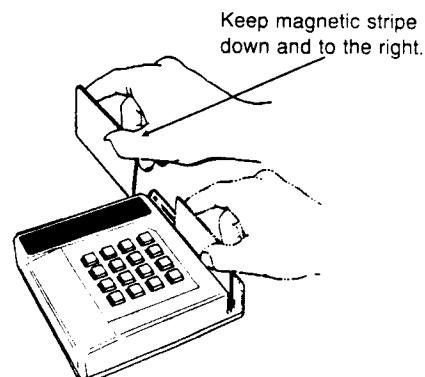

Figure 5-1. Cardreader Operation
2. Insert the credit or debit card into the rear of the cardreader slot with the magnetic stripe facing down and to the right of the terminal. (See Figure 5-1.)